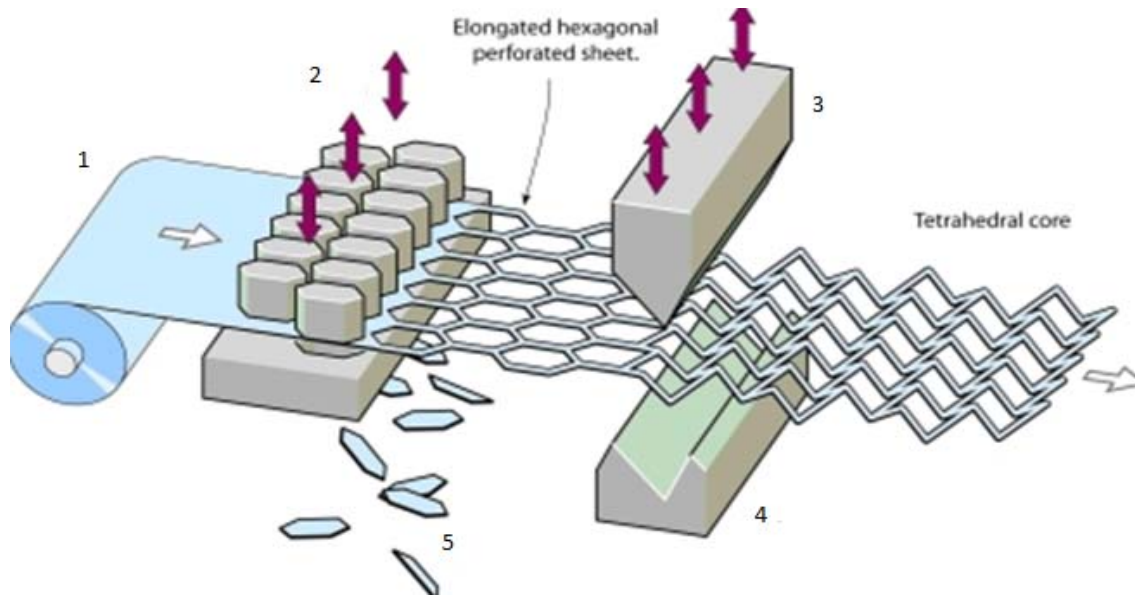

Figure 1- Manufacturing Process
Figure 1 shows one of the manufacturing processes in sheet metal industry.
(b) Name and describe in your own word about the manufacturing process in **Figure 1**.
(c) Provide **THREE (3)** applications of the manufacturing products shown in **Figure 1**.